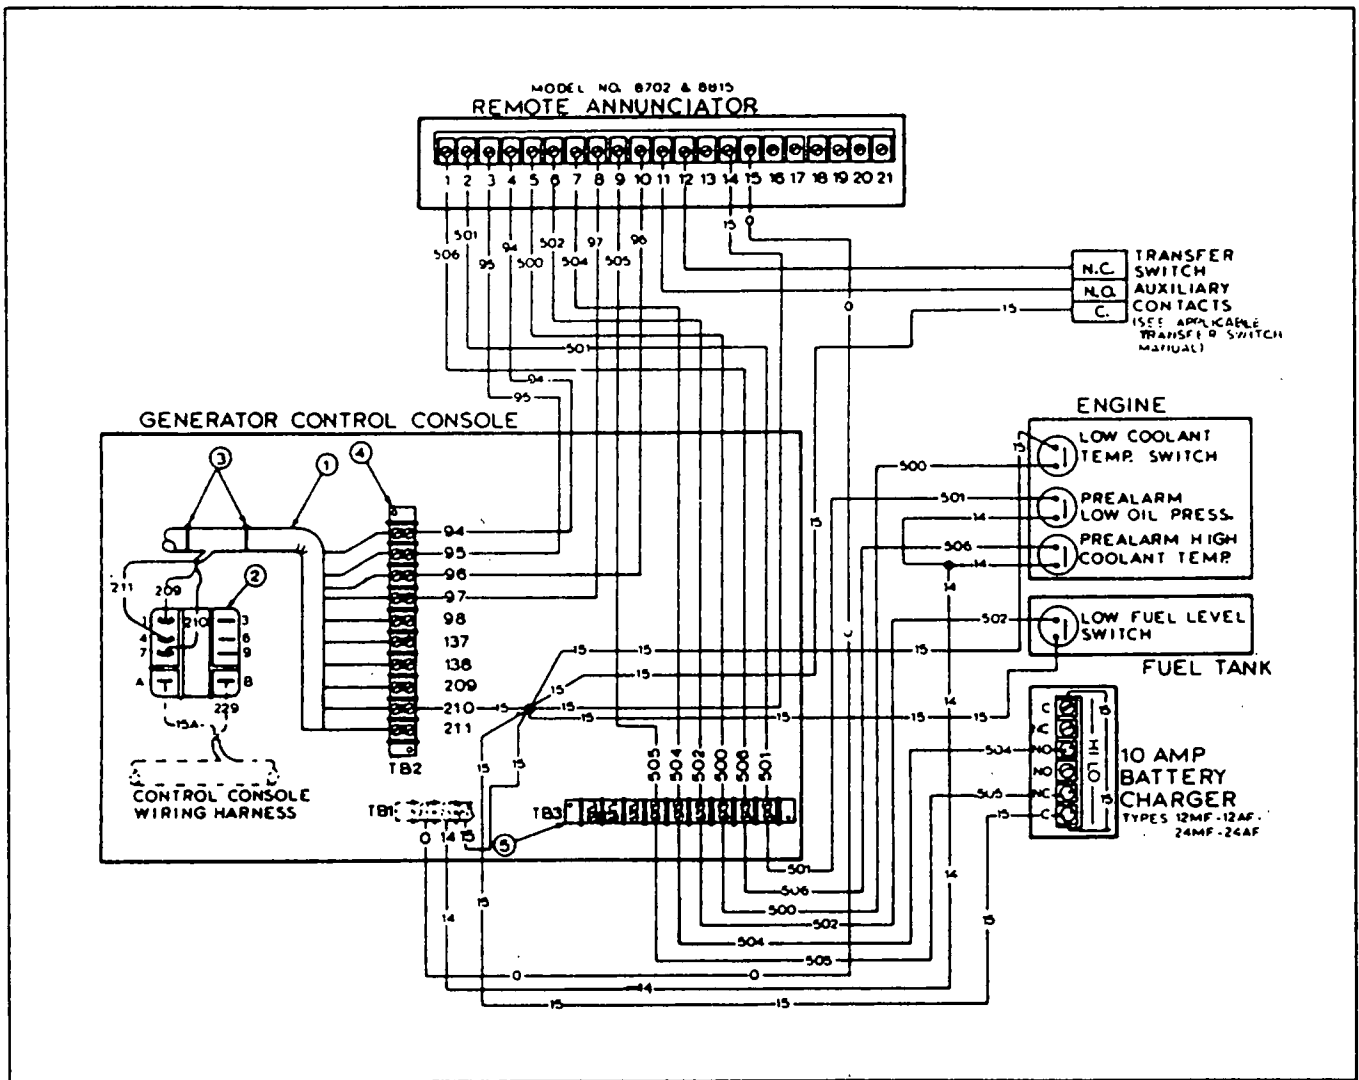

Figure 2. Interconnection Diagram for 14-Lamp Annunciator Panel
See Figure 2 on next page. All input signal connections are made at a 21 point terminal block, located on the remote panel's monitor circuit board. Use purchased No. 14 AWG wire for interconnections.
**NOTE:** Terminal board TB3, shown in Figure 2, is factory installed in the generator control console when the optional prealarms have been factory installed.
Items 1 through 5 in Figure 2 may be identified as follows: